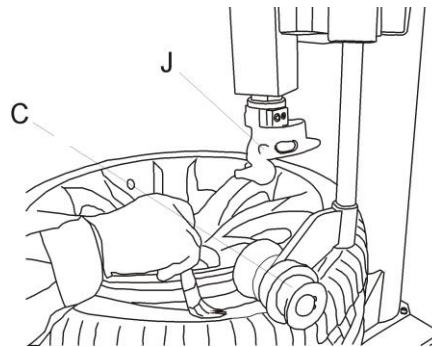

Fig 9
1. Press tyre with right pressing roller C,G to a position 3cm lower than rim edge, lubricate tyre bead, rotate turntable, lift roller C,G (Fig 9)